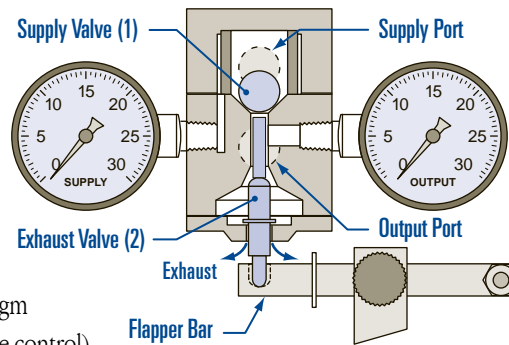

Fig 1
Valve (1) as shown in the closed position (Fig 1) is held closed by force exerted from supply gas. When upward Flapper Bar force transferred to Valve (2) is sufficient enough to overcome supply force, the ball snaps upward allowing supply gas to output port which operates the diaphragm motor valve (not shown nor included with the control).